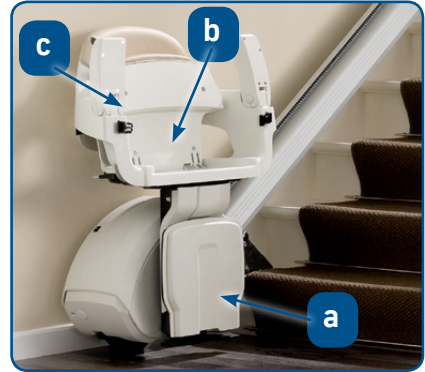

Fig. 2-3: Folded stairlift
The stairlift is available at the stop place in a folded position (figure 2-3). You can unfold the stairlift as follows:
1. Unlock the chair by pushing the swivel handle (see figure 2-3) downwards (only upstairs).